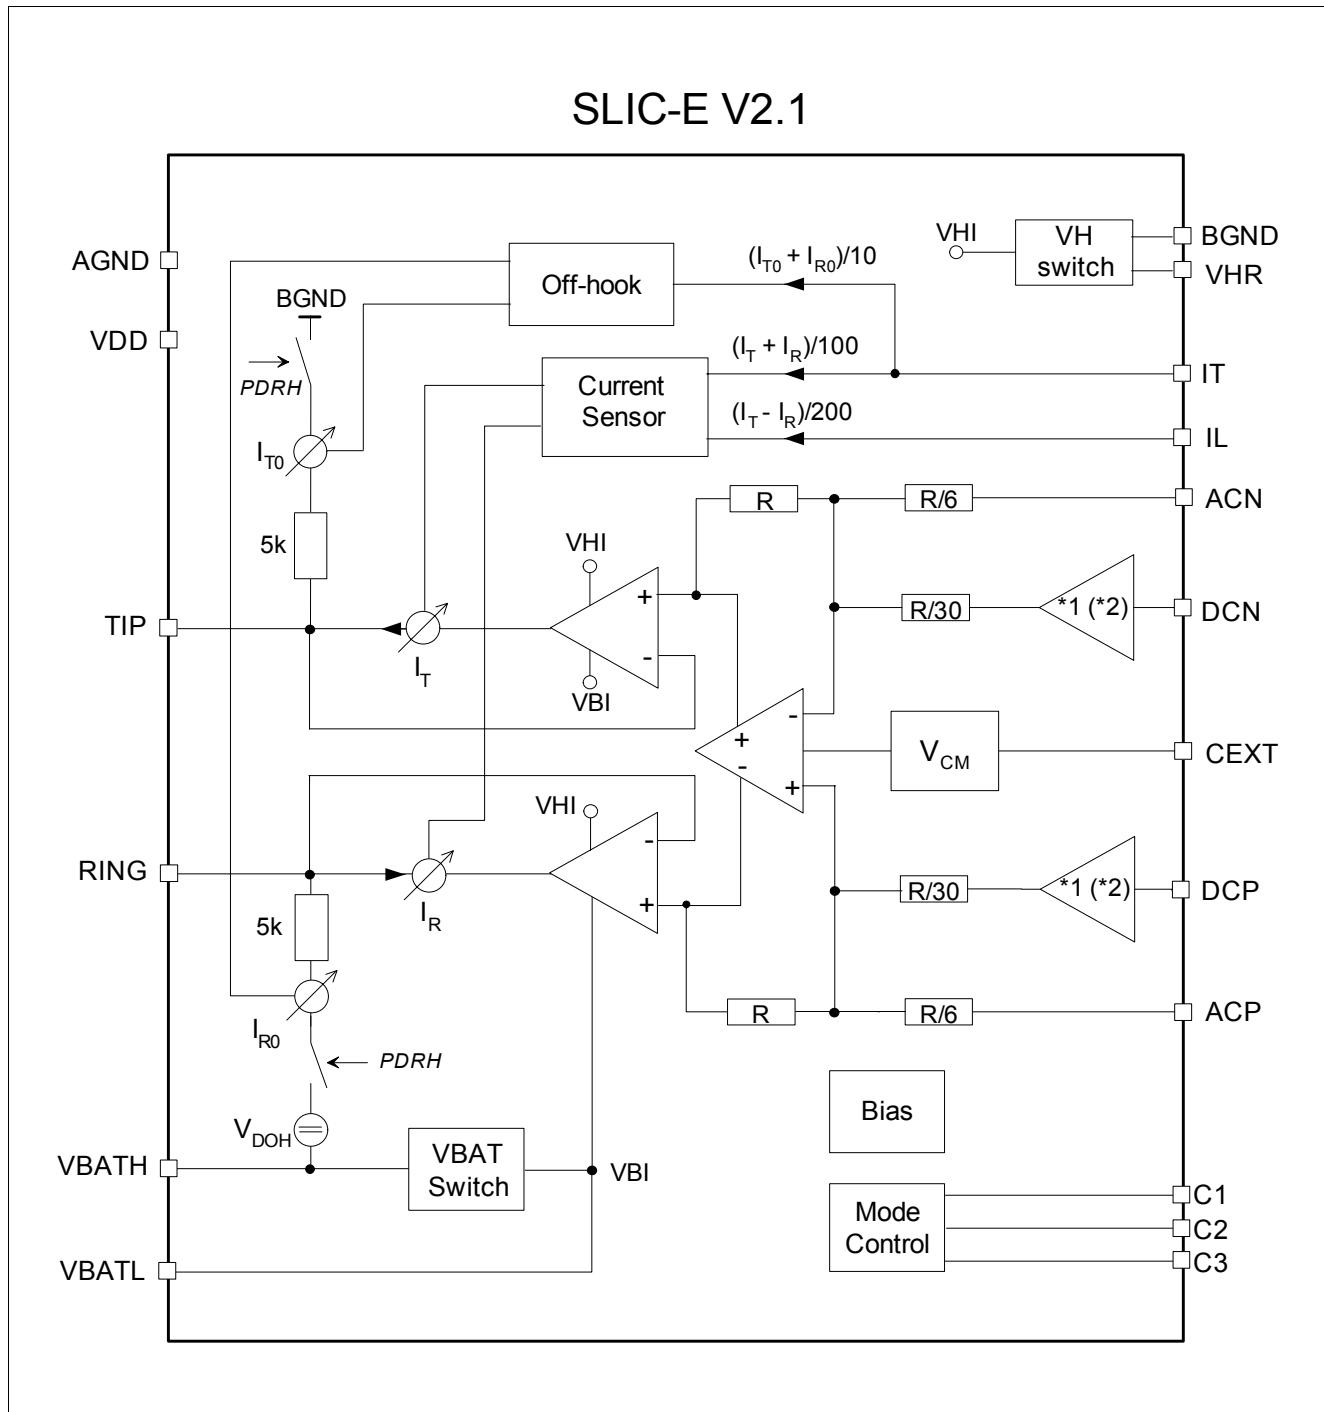

Figure 6 Block Diagram
A functional block diagram is shown in Figure 6.
Power consumption is reduced to a minimum by switching completely off all voice transmission functions. To allow off-hook detection, PDRH provides a connection of $5\text{ k}\Omega$ each from TIP to BGND and RING to VBATH, respectively, while the output buffers show high impedance (see Figure 6). The current through these resistors is sensed, scaled by 1/5 and transferred to the IT pin for off-hook supervision.
3) Due to the changed battery switch concept (see **Figure 6**), the VBATL series diode must not be shared between different channels; one diode per channel is mandatory (also for applications with TSLIC).